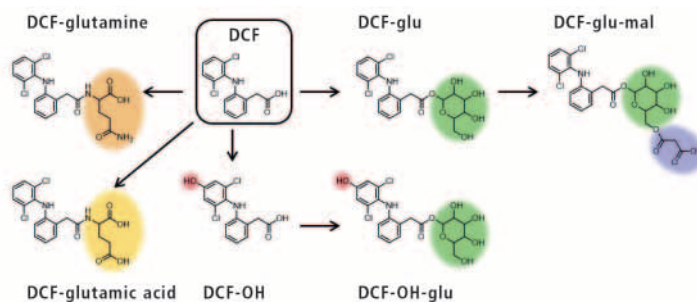

Figure 2: Schematic representation of the metabolization of DCF with structural proposals of the metabolites
The fast sample stage and short pump time of the MALDI-8020 (figure 2) make the instrument especially suitable for high throughput analysis and method
Figure 2: The linear benchtop mass spectrometer MALDI-8020 shows a great performance on a minimum footprint. Typical applications for the MALDI-8020 are the analysis of proteins/peptides, lipids, or hydrocarbons in life science or quality control of polymers.
Careful evaluation of the mass spectra obtained and comparison with untreated plants led to identification of 16 metabolites with proposed structures. These were hydroxylation products (OH) or conjugates with glucose (glu), malonic acid (mal), glutamine and glutamic acid (see figure 2). For these experiments, the plants were treated with high concentrations of drugs (> 1 mg/L) to facilitate the identification of the metabolites [4].